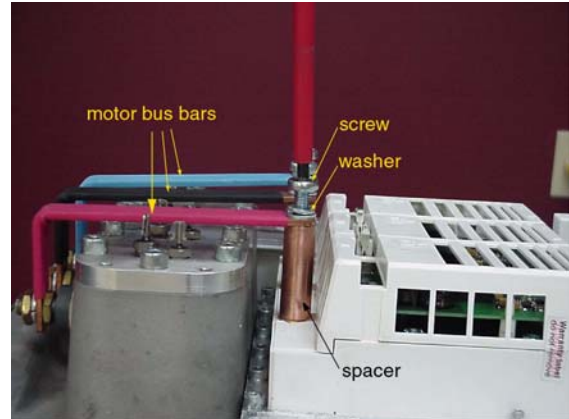

Figure 5-6 Disconnecting the Motor from the IGBT Inverter
2. Remove the three Phillips-head screws, washers, and spacers that secure the blue, black, and red motor bus bars to the IGBT Inverter, as shown Figure 5-6.